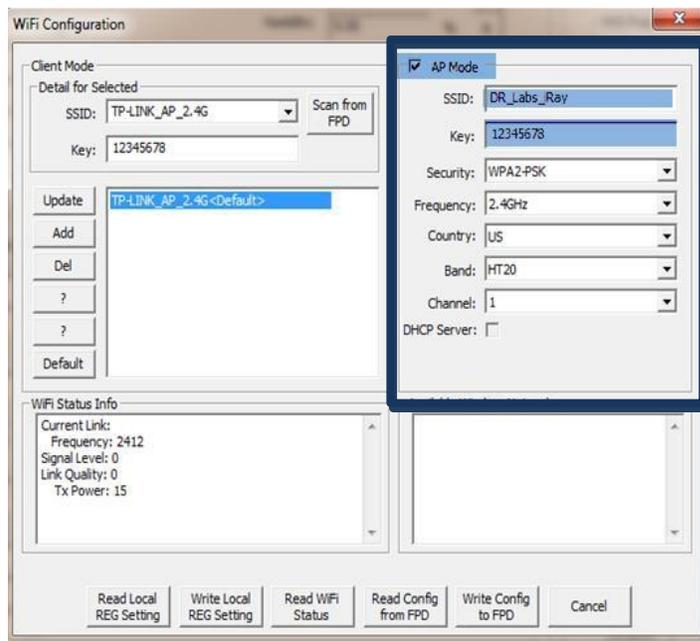

Figure 12
6. Place a check box in the "AP mode" **Figure 12**
5. Select config > Click Wi-Fi settings **Figure 12**